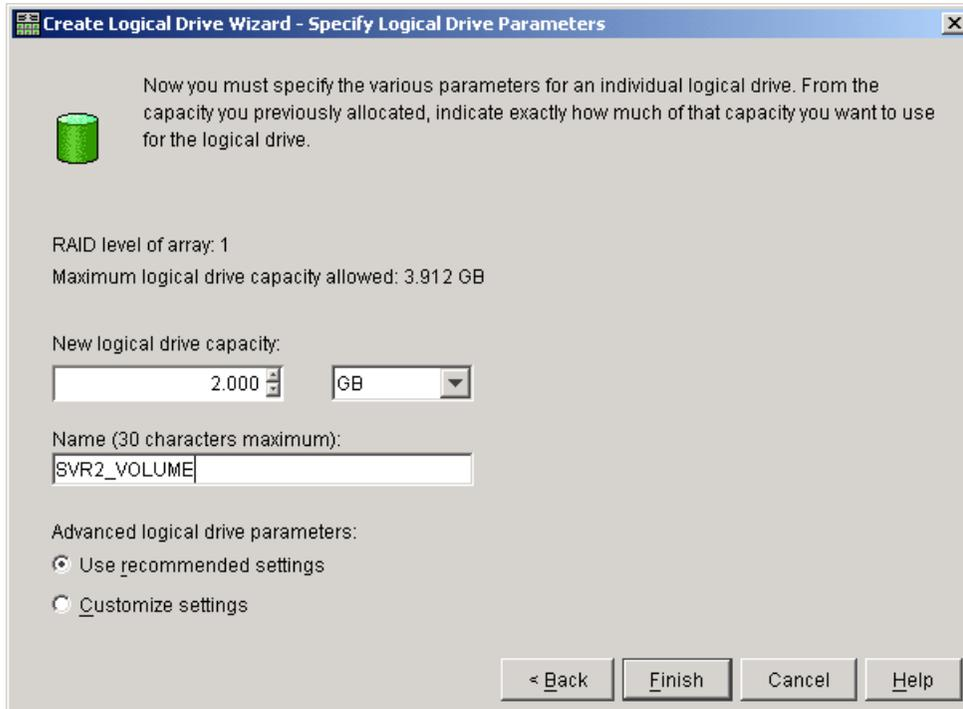

Figure A-7 Specify logical drive parameters
8. Now we have to specify the logical drive parameters. This includes the drive size and a volume name. The name should be clear and follow a good naming convention. We allocated 2 GB and called our volume SVR2_Volume, as shown in Figure A-7: